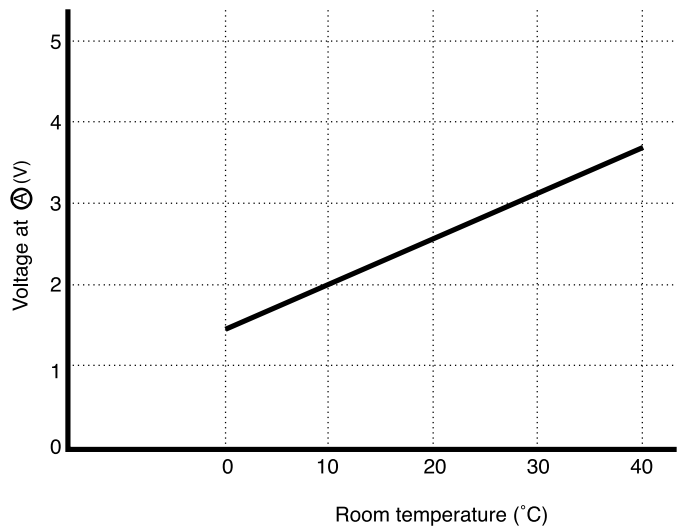

Fig. 8-2
- The voltage at ③ depends on the room temperature as shown in Fig. 8-2.